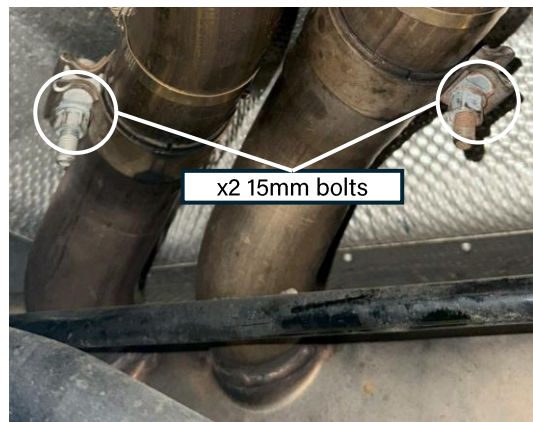

Figure 4h: Rear section muffler clamps
- Remove the rear section muffler clamps (Figure 4h)